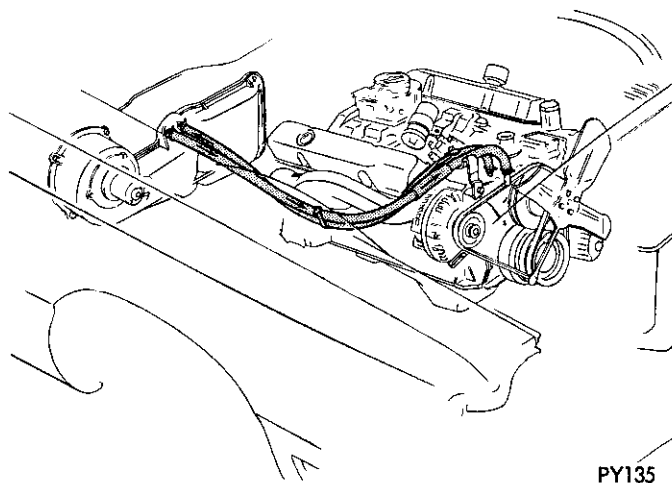

Fig. 3—Heater Hose Routing
- (1) Position housing on front floor of vehicle under instrument panel and place temperature control cable in bracket. Place end of cable housing flush with end of bracket and install retaining clip.
- (2) Tip housing up under instrument panel and press mounting studs through dash panel.
- (3) While holding housing in position, install locating screw. Then swing mounting bracket down onto stud on face of housing and install mounting nut.
- (4) In engine compartment install four retaining nuts and tighten securely. (24 inch-pounds).
- (5) Connect electrical connectors to resistor block and vacuum hoses to actuators (white hose to rod side of actuator).
- (6) Plug antenna lead into radio and connect vacuum trunk lock hoses if so equipped.
- (7) From engine compartment, remove plugs from core tubes and connect hoses to heater (Fig. 3).